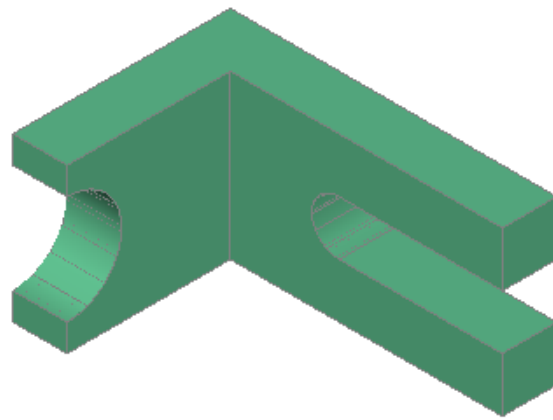

Figure Step 13
Step 13 Your completed model should appear as shown on the figure. (Figure Step 13)